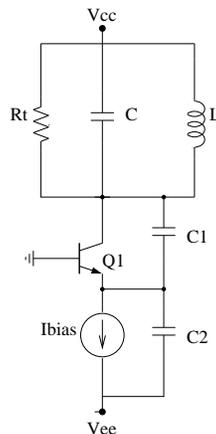

Figure 4: Simple Colpitts Oscillator
The Colpitts oscillator translates to this block diagram very well. Looking at Figure 4, we see a simplified version of the Colpitts that you'll be building. You might notice that the transistor's base is grounded, hinting that we probably have a common base amplifier. Recalling that the small-signal gain for this amplifier is $A_v = g_m R_{load}$ (note that this gain is positive), it is easy to see how this could make up the gain block (A), of the block diagram. The feedback (f), in this case, is the capacitive divider formed by C_1 and C_2 . Recalling a bit about capacitive dividers, we remember that $f = \frac{C_1}{C_1 + C_2}$. In order for our condition for oscillation to be satisfied, we must set $A = 1/f$, or $g_m R_{load} \frac{C_1}{C_1 + C_2} = 1$. Also, since the phase must exactly equal zero, this oscillation can only occur at the resonant frequency of the LC tank, or at $\omega = \frac{1}{\sqrt{LC}}$.